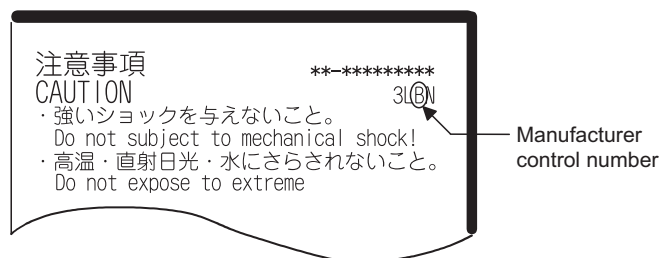

Figure 11.7 Label on the back of SRAM card
*2: The manufacturing control number (the third digit from the leftmost) is written on the label on the back of the SRAM card (as shown in Figure 11.7).